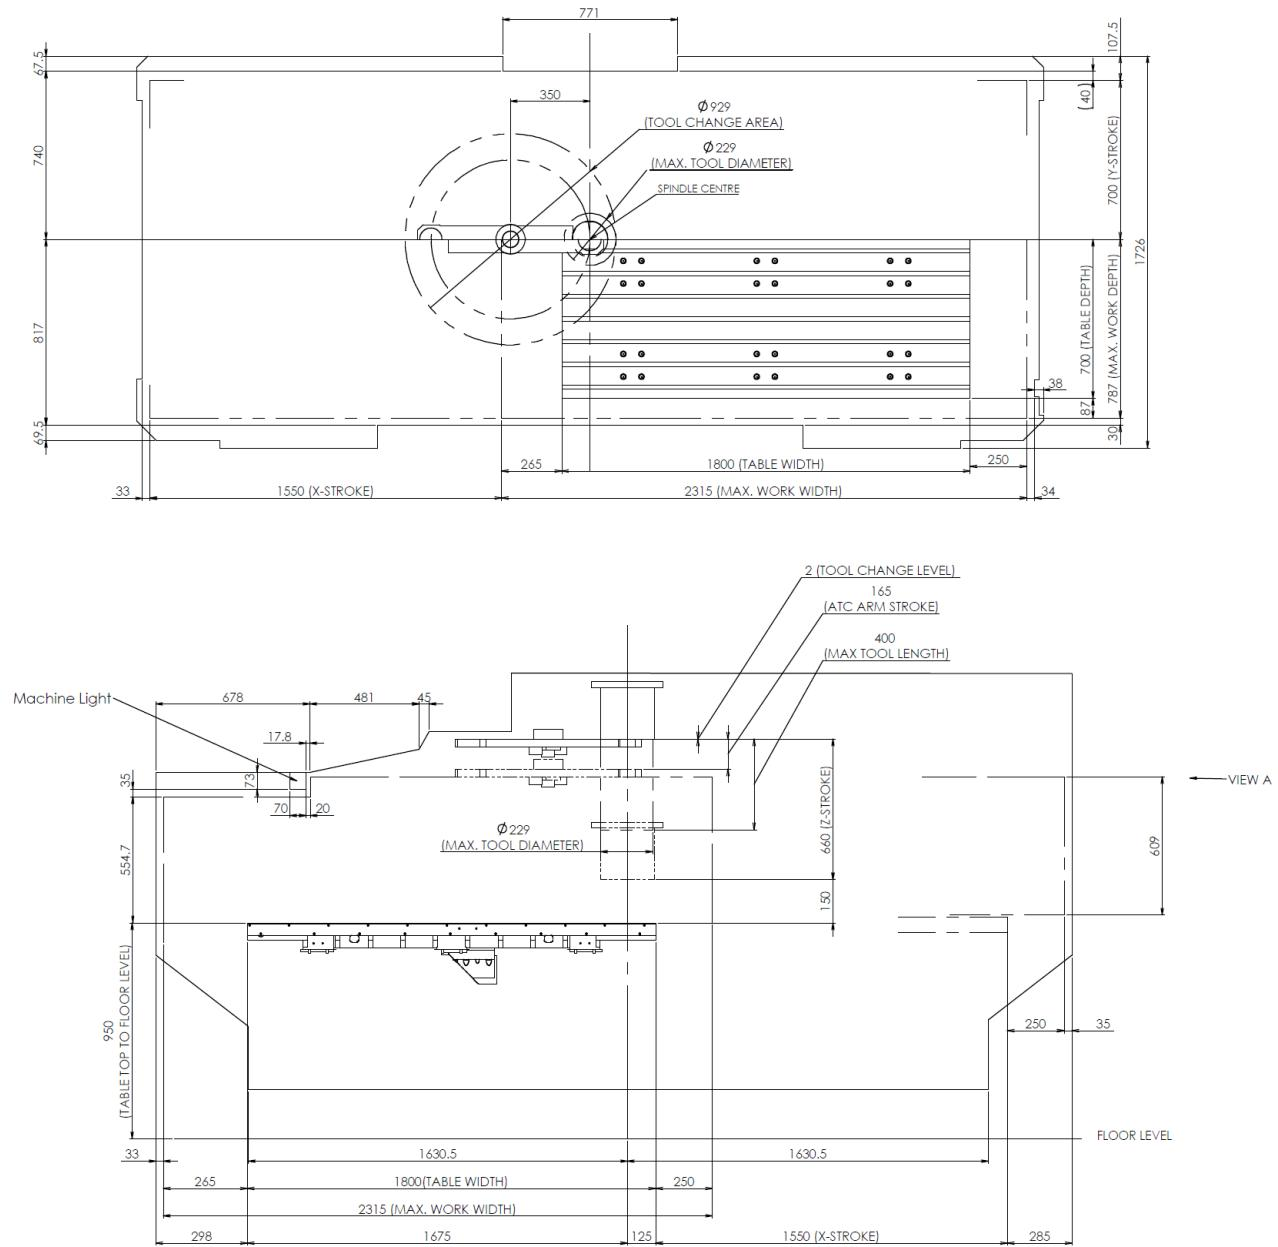
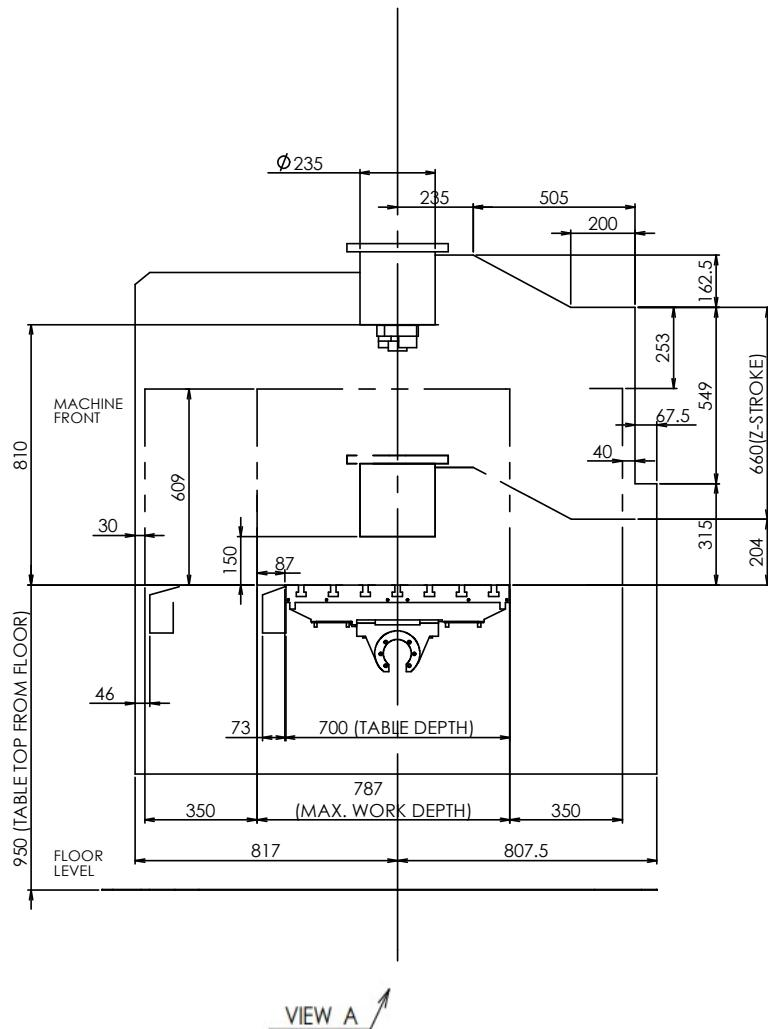

Figure 1.5 PS155 (SPD-14K) Machine Stroke Limits & Work Area 1
Figure 1.8 PS155 (SPD-10K Option) Machine Stroke Limits & Work Area 2
- When the X/Y/Z-axis is moved, the workpiece must be within the movement range. (Refer to Figure 1.5 to Figure 1.8)
- A portion of the workpiece shape must be changed for exchanging tools that exceed the tool shape limitation (Refer to Figure 1.5 to Figure 1.8).